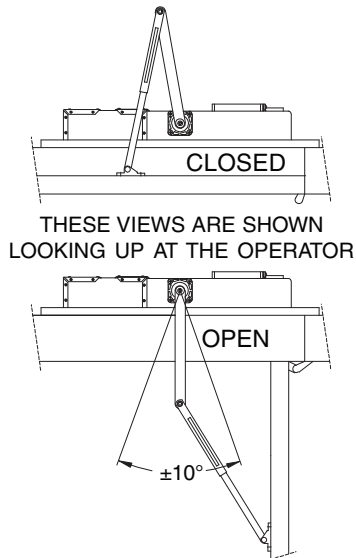

Figure 1
5. Attach the arm linkage to the operator (Figure 1) with the 8mm socket head screw (loosely) and adjust the arm to the desired door position together with the shoe. Once the desired position has been chosen, tighten both the 8mm socket head screw and the nut connecting the two parts of the arm.